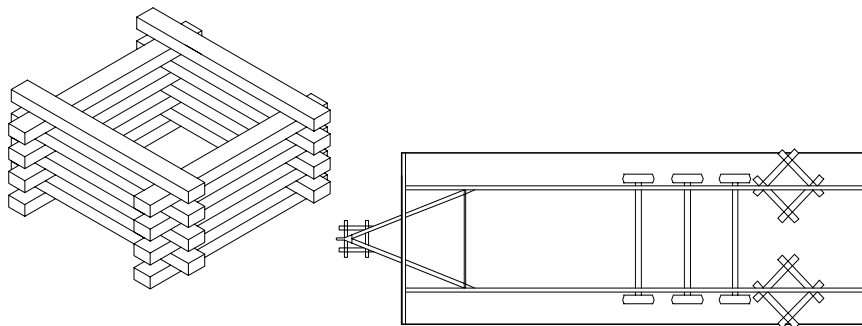

Figure 15. Stack 4" x 6" by 5' long timbers as shown to form safety timbers. Place safety timbers under home behind axle area and under hitch.
Homes weigh several tons. No one should be under the home (whether it is moving or stationary) unless proper cribbing is in place (**Figure 15**). Failure to utilize proper cribbing may result in serious injury or death.
- Make sure adequate safety cribbing (**Figure 15**) is in place whenever the home is placed on jacks.
2. **Install cribbing.** Install safety cribbing (**Figure 15**)